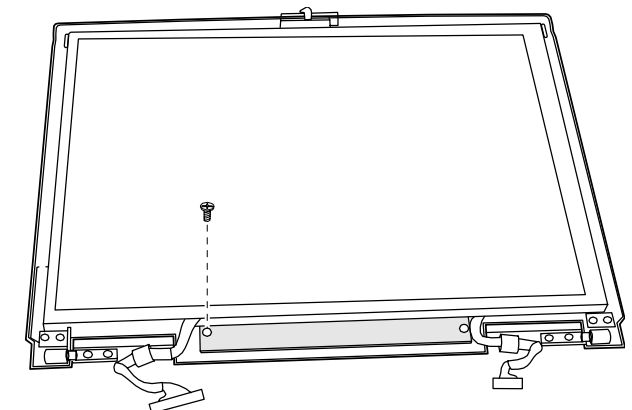

Figure 5-28. Removing the Inverter/LED Board for 13.3 Inch LCD
1. Reconnect the connectors. Fit the inverter/LED board back into place and secure with according number of screws. (Refer to Figure 5-28 and 5-27 earlier.)